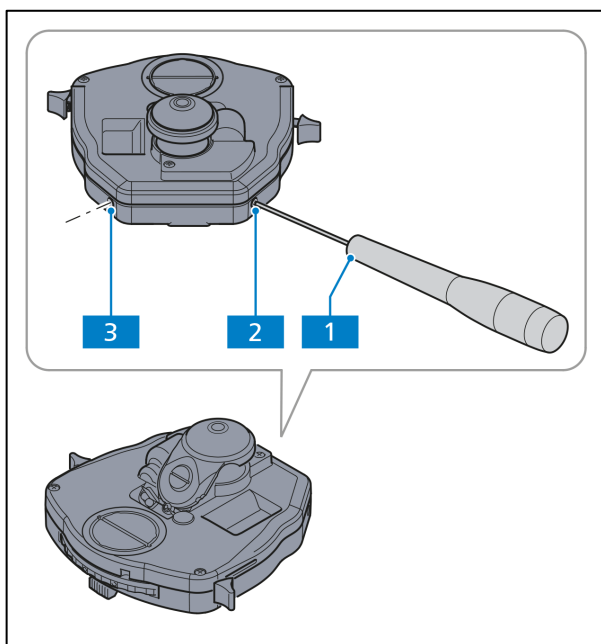
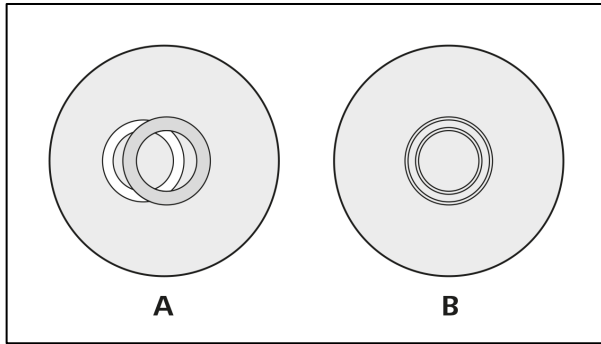

Fig. 4-6 Centering the darkfield diaphragm on the condenser, achromatic-aplanatic 0.9 H D PhC DIC
Fig. 4-7 Centering the annular phase diaphragm (light-colored, in the condenser) and the phase ring (dark-colored, in the object)
(3) Setting up transmitted light darkfield microscopy
- If the darkfield diaphragm needs to be centered, use two Allen wrenches (AF 1.5) (Fig. 4-6/1) and adjust the two centering screws (Fig. 4-6/2 and 3) until the objective exit pupil appears consistently dark. Remove the Allen wrenches (AF 1.5) from the condenser after finishing the centering procedure.
- If the overlap is not exact (Fig. 4-7/**A**), the lighter annular diaphragm must be re-centered with the aid of two Allen wrenches (AF 1.5) (Fig. 4-6/**1**). Adjust the two centering screws (Fig. 4-6/**2** and **3**) so that you achieve a full overlap with the darker phase ring (Fig. 4-7/**B**).
A complete phase contrast can only be achieved when the light-colored annular diaphragm (in the condenser) overlaps exactly with the dark-colored phase ring (in the objective) in the illumination beam path (Fig. 4-7/**B**).